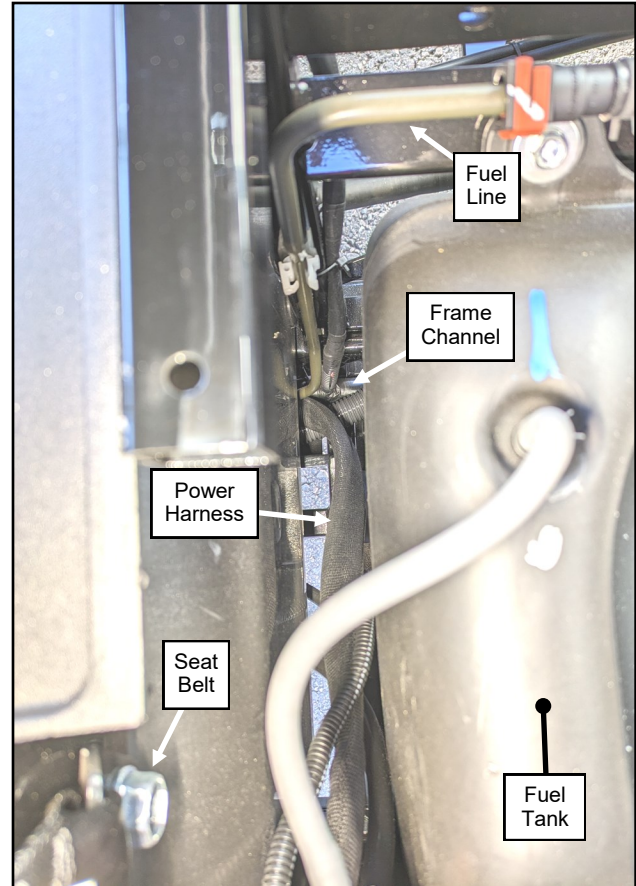

Fig. 18.5 Route Harness, Right Side
- 18.5** Route the harness behind the fuel tank to a frame channel running down the middle of the vehicle as shown in figure 18.5. Continue to route the harness back towards the battery compartment within this frame channel.